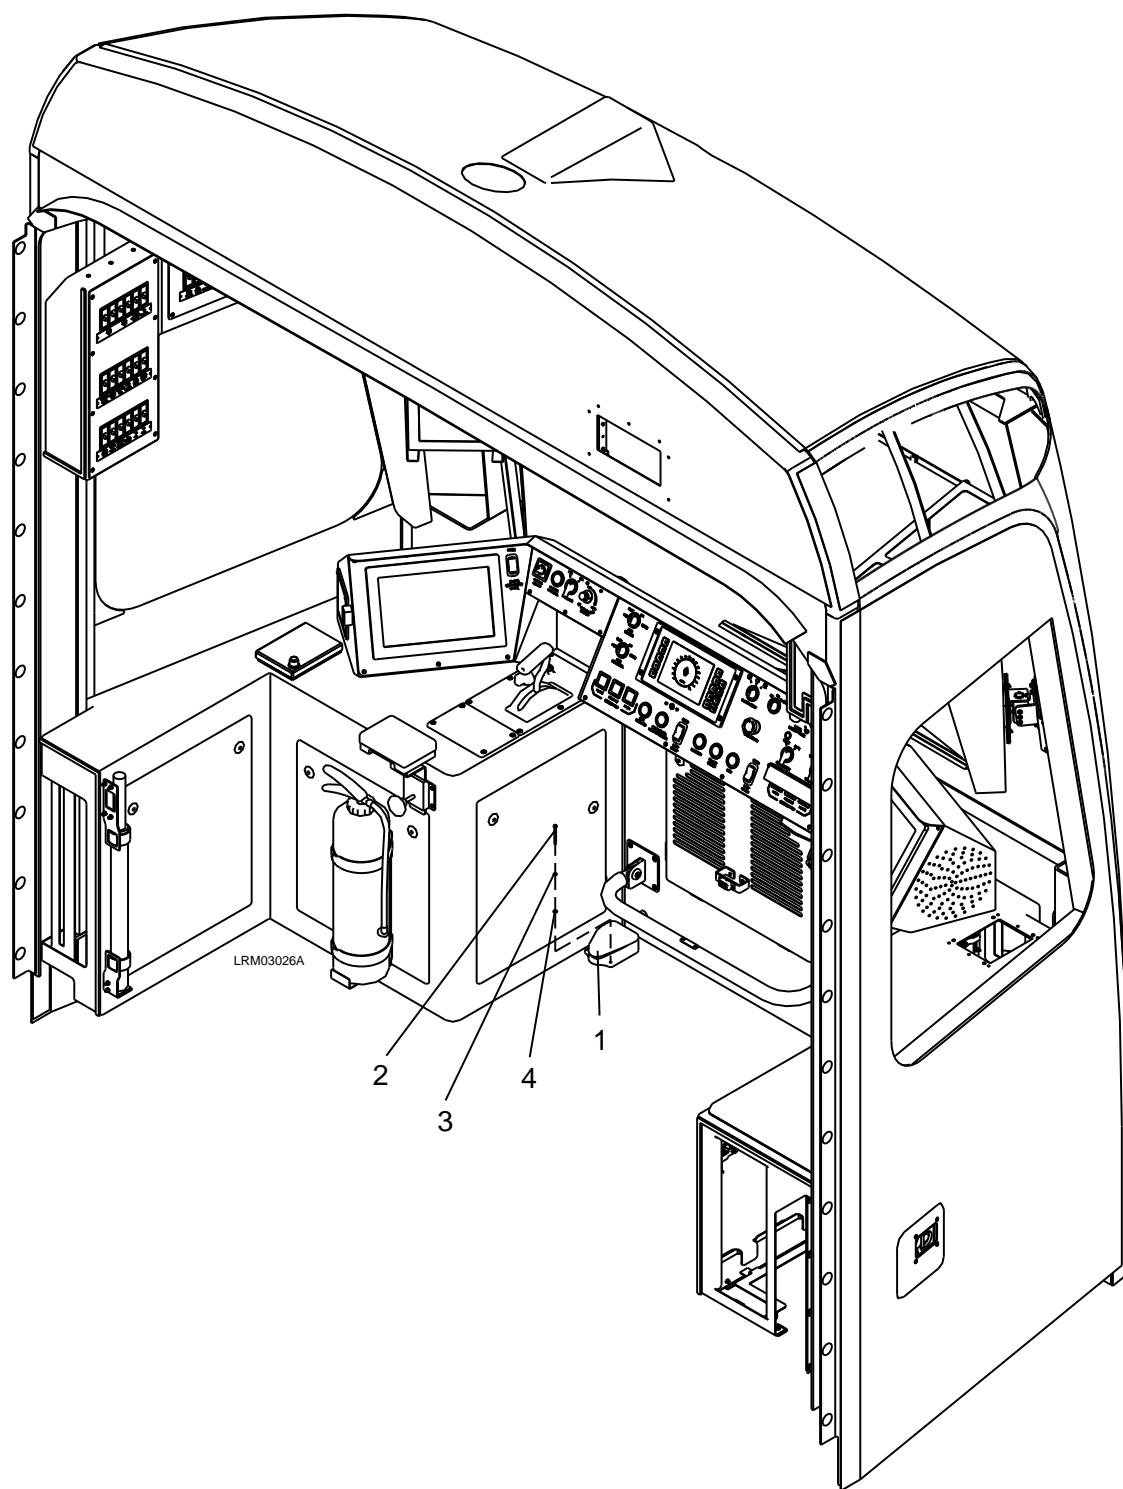

Figure 7-22: Foot Switch
2. Remove the two M4 x 50 screws (2), M4 lock washers (3), and M4 plain washers (4). See Figure 7-22.
3. Remove the Foot Switch (1).